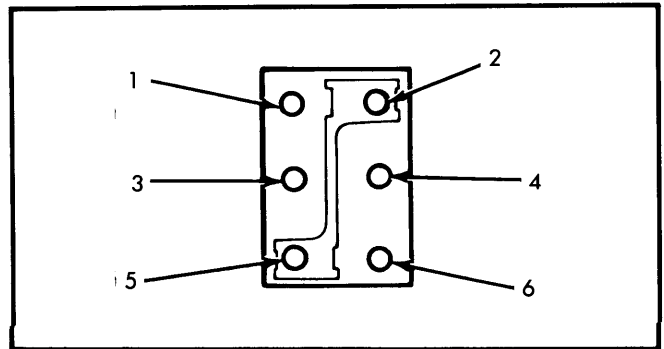

Fig. 2 Single Switch Pin Locations
1) With the switch in the neutral position, use an ohmmeter to test switch. Continuity should exist between terminals 1, 2, 3, and 5. Continuity should also exist between 4 and 6. See Fig. 2.